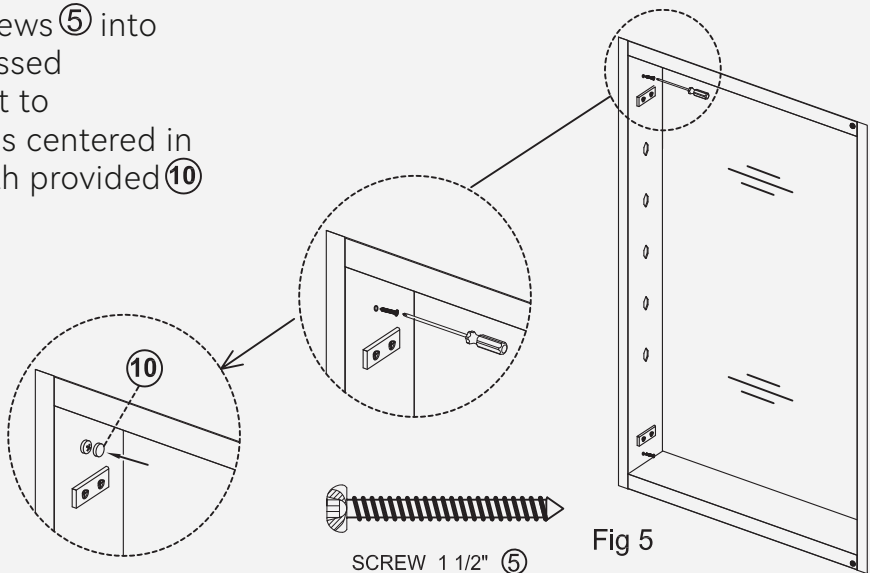

Fig 5
3. Insert four (4) #10 X 1 1/2" screws (5) into four locations provided for recessed installation (Fig 5). Be careful not to overtighten. Make sure cabinet is centered in rough opening. Cover screws with provided (10) caps.